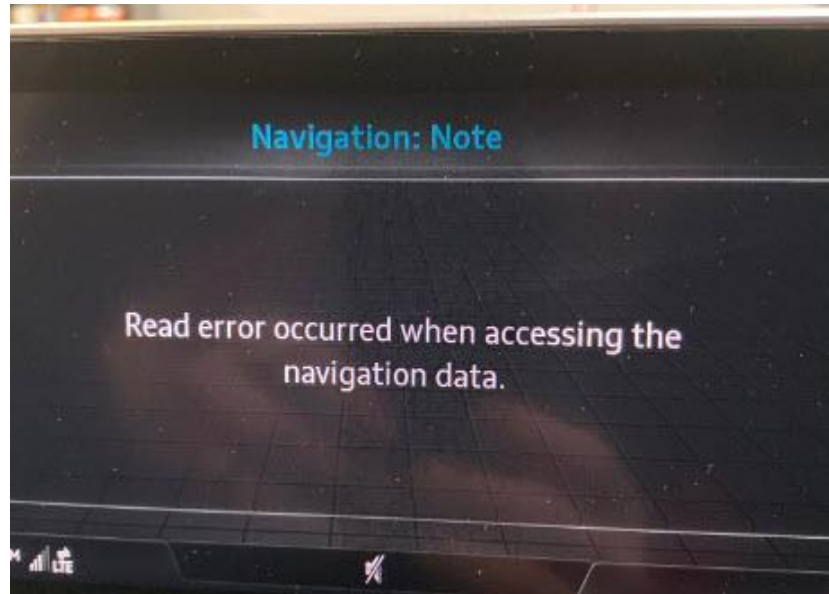

Figure 1. The error message is shown on initialization.
- The MMI shows the message “Read error occurred when accessing the navigation data” after initialization (Figure 1).
If the navigation map database is corrupted during an online update, the message from Figure 1 is displayed and the navigation system is unavailable. The DTC B126CF0 is entered into the information electronics, J794 (address word 005F).